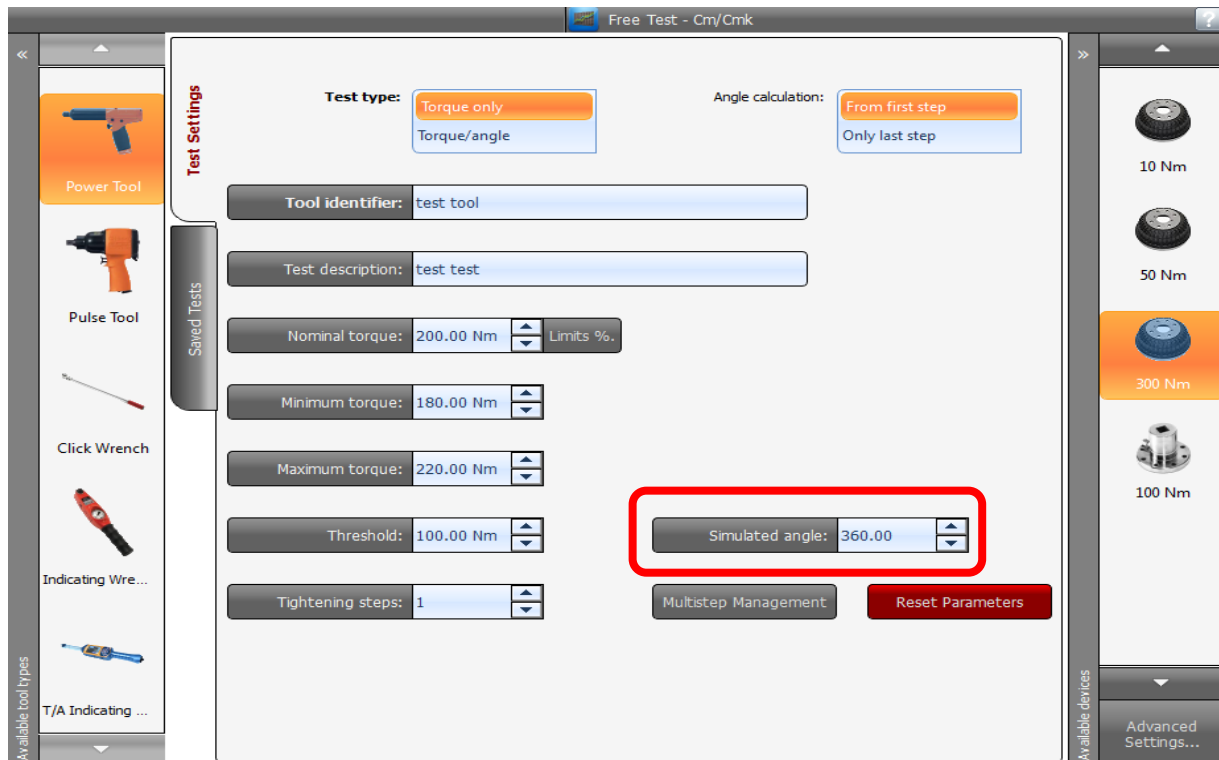

Figure 6
- the **target** of the test **measure**, if the test type is torque only and the device used to execute the test is a brake, this value is reported as the **simulated angle** in the main test settings screen (See **Figure 6**). The operator is in any case able to modify it.